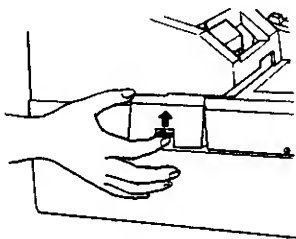

Fig. 4
5. Attach the cover, by inserting the top edge first and pressing the bottom part next. (Fig.4)